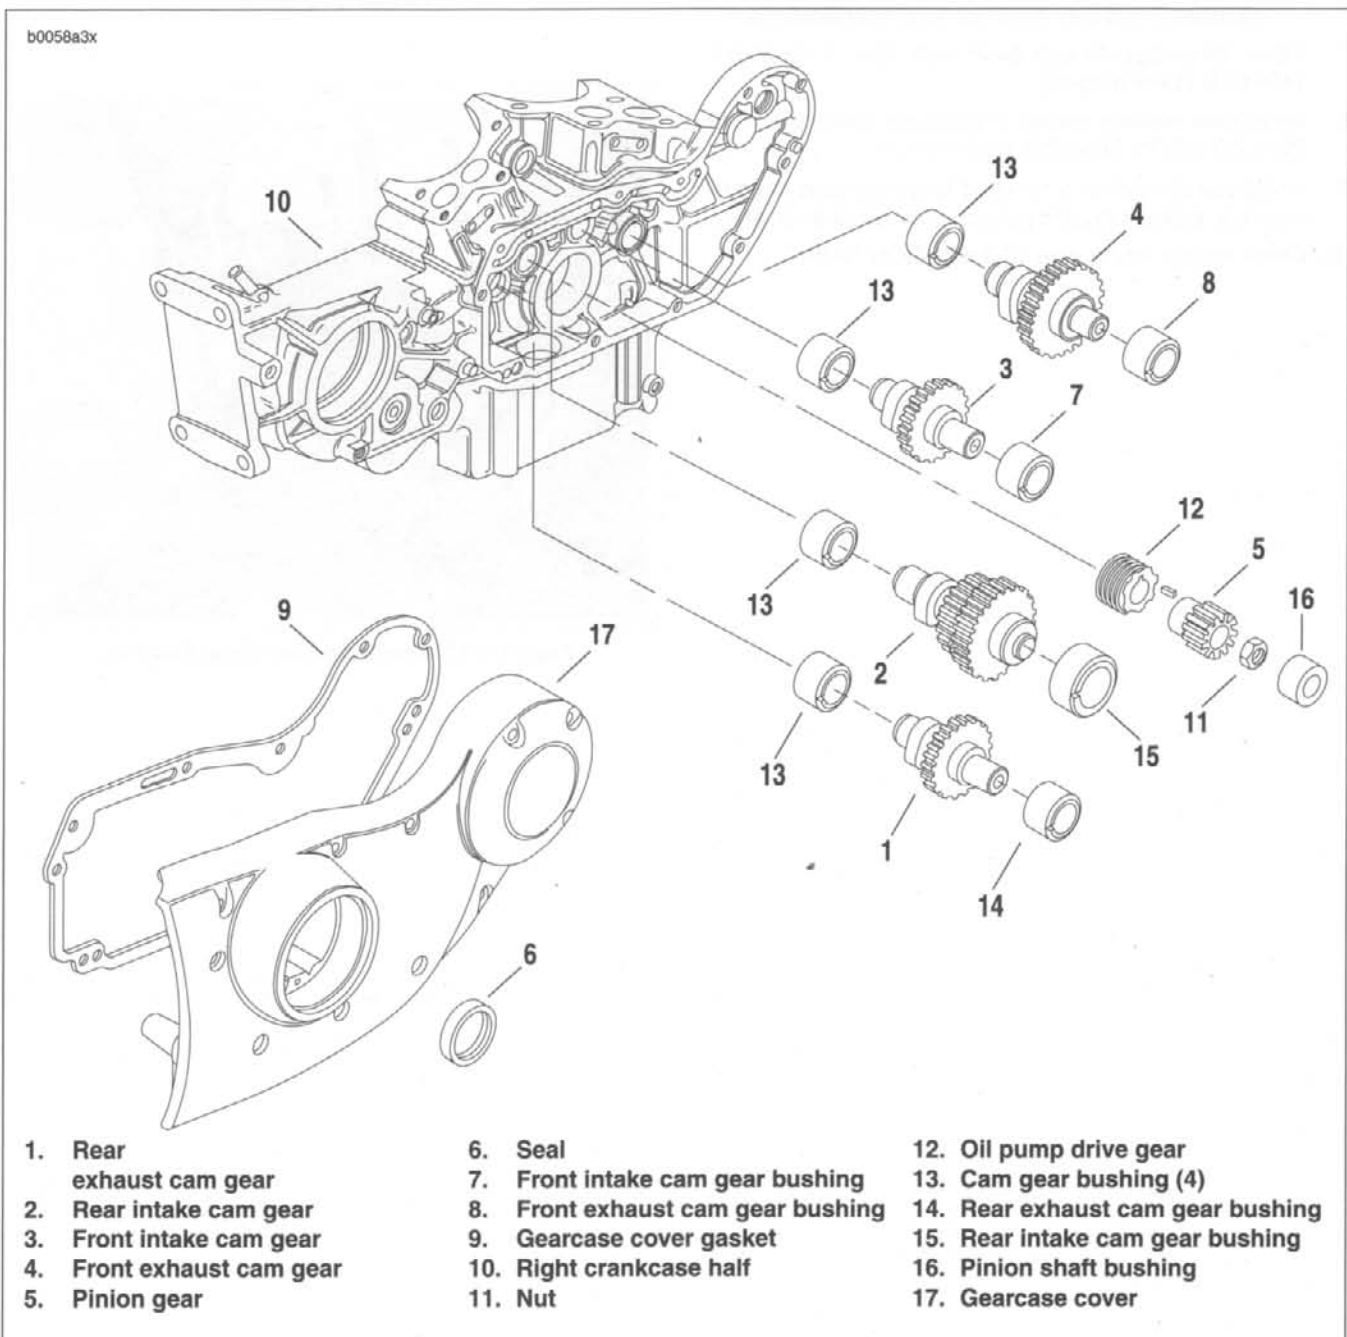

Figure 3-79. Gearcase and Valve Train Components
1. See Figure 3-79. Thoroughly clean area around gearcase cover (17) and tappets. Blow loose dirt from crankcase with compressed air.
7. Place a pan under gearcase to collect oil. Remove cover screws. Carefully remove gearcase cover. Discard old gasket (9).
- See Figure 3-79. Bushings (7, 8, 13, 14, 15 and 16) are press fit in gearcase cover (17) and crankcase. Inspect each bushing against its corresponding cam gear shaft or pinion gear shaft. See Table 3-13.
- See Figure 3-79. Using an arbor press, install each bushing (7, 8 and 14) in its gearcase cover (17) bore so that bushing shoulder contacts cover boss. Orient each bushing so the oiling slot is at the 9 o'clock position within the gearcase cover bore.
- See Figure 3-79. Rear intake cam gear bushing (15) must be installed in its gearcase cover (17) bore using an arbor press. You will need to orient the bushing in a specific position of rotation within the cover bore, and will need to drill a lubrication hole in the bushing, according to the following procedures.
1. See Figure 3-79. Using an arbor press, install pinion shaft bushing (16) in its gearcase cover (17) so that bushing is flush with cover boss. There is no need to orient this particular bushing in any specific position of rotation within the gearcase cover bore.
1. See Figure 3-79. Bushings (7, 8 and 14) to be reamed must be installed in gearcase cover (17) as described in BUSHING INSTALLATION. Attach gearcase cover to right crankcase half (10), which has been disassembled from left crankcase half, securing with a minimum of three mounting screws.